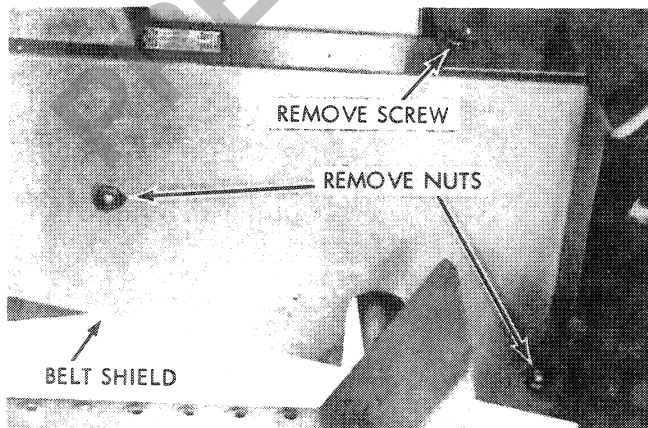

Figure 22.
1. Remove rear shield over drive belt by removing the two acorn nuts and one slotted-head screw (See Fig. 22).